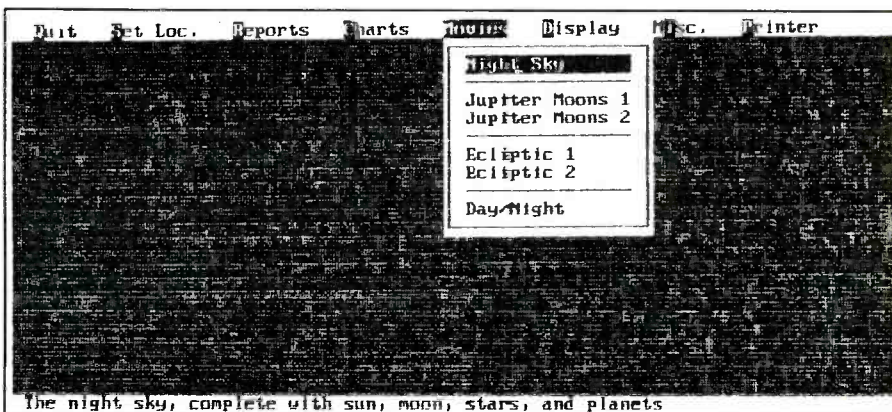

Fig. 4. Astronomy Lab's main menu.
*Astronomy Lab* uses a horizontal menu bar with eight choices. You select a choice by typing its initial letter. (Curiously enough, the first choice is Quit.) A drop-down menu with further choices then appears, as in Fig. 4.
To run a movie, you select Movies from the horizontal menu bar and then choose the movie you want to watch from the menu shown in Fig. 4. When you choose a movie, a dialog box appears, where you enter the date and time of the movie you want to watch. A movie, such as a night-sky movie, shows movement of stars and planets in relation to each other. You can either speed up or slow down a movie and make it progress in time or retreat in time. If events are happening slowly, there is a turbo mode that lets you speed things up by a factor of 1,000.